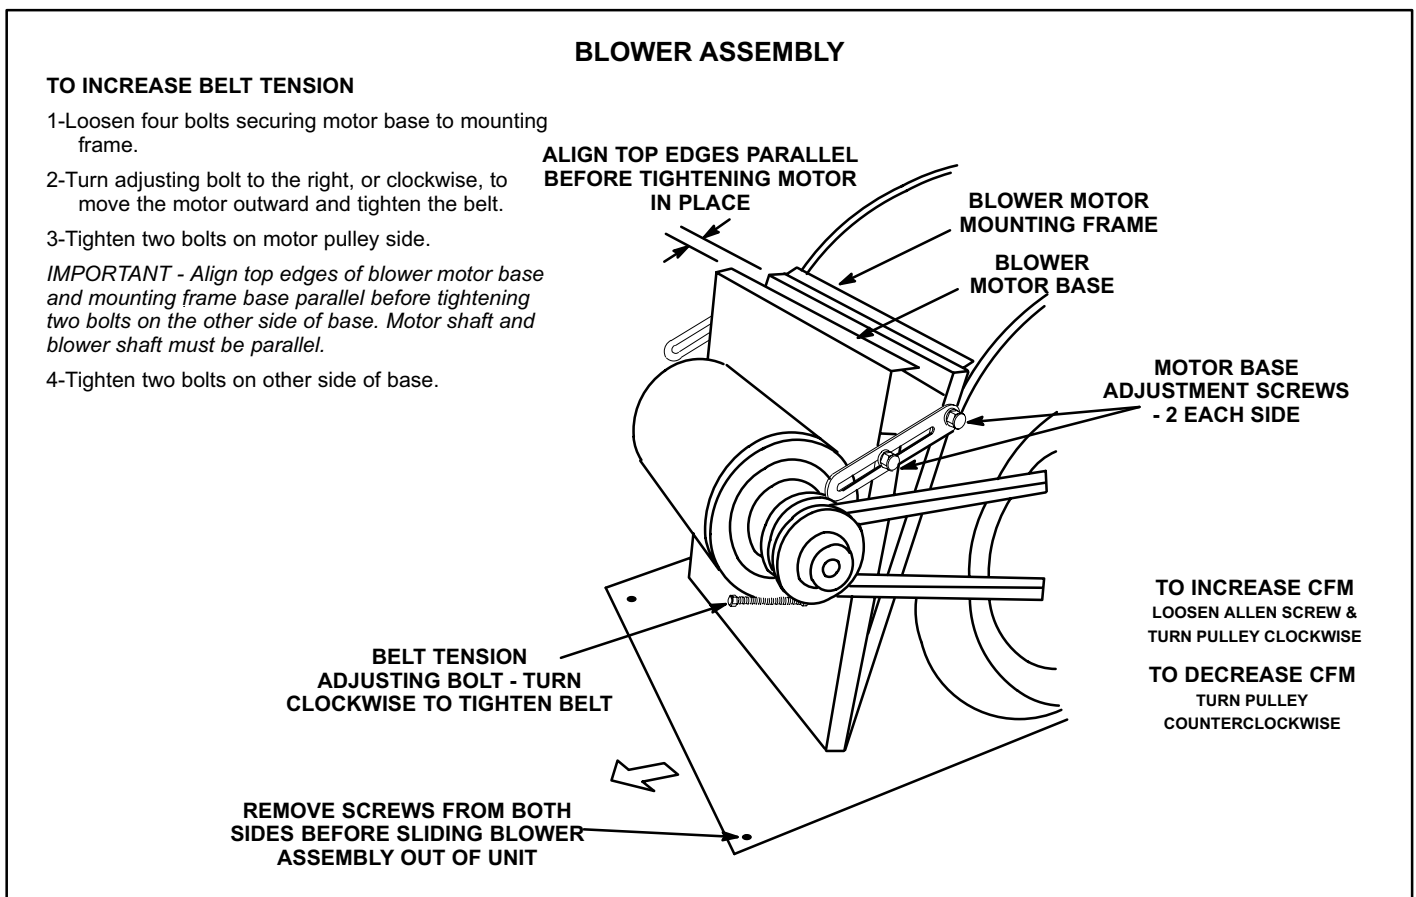

FIGURE 15
The blower compartment in all LGA/LCA/LHA units is located between the evaporator coil and the condenser coil section. The blower assembly is accessed by disconnecting the blower motor and all other plugs and removing the screws in front of the blower housing. The blower pulls out as shown in figure 15.
- 5- The RPM can be adjusted at the motor pulley. Loosen Allen screw and turn adjustable pulley clockwise to increase RPM. Turn counterclockwise to decrease RPM. See figure 15.
- 1- Loosen four screws securing blower motor to sliding base. See figure 15.
- 2- Remove screws on either side of blower assembly sliding base. See figure 15